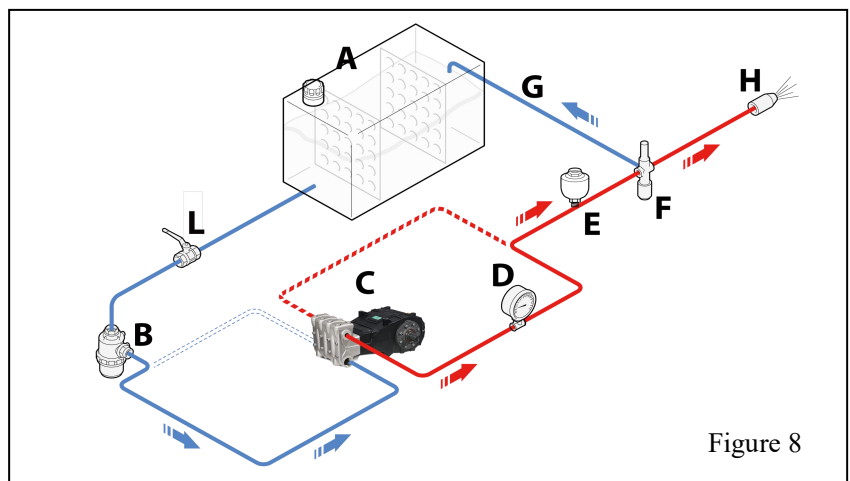

Figure 8
The following is a simple diagram of the connection between the pump and the main water supply pipe. As shown in Figure 8
9.7.7 Pump startup and shutdown during water tank supply (see Figure 8)